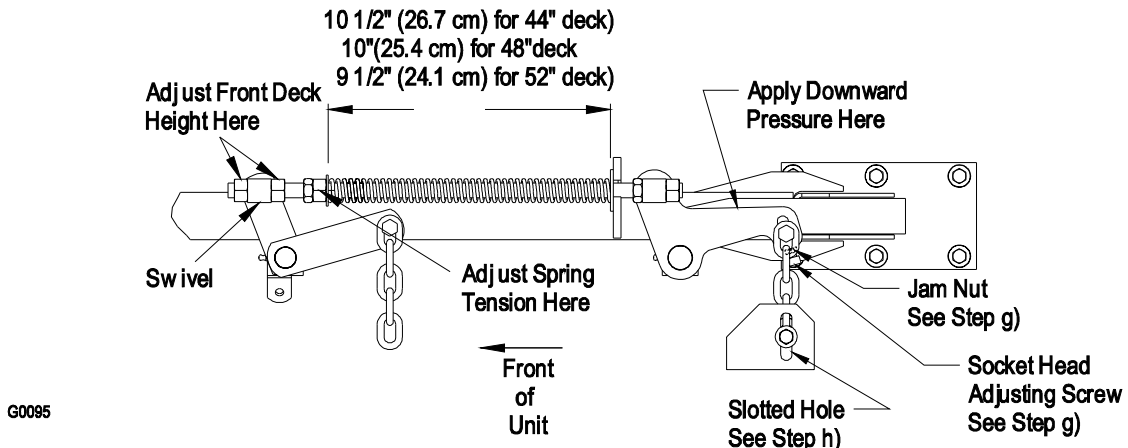

FIGURE 11
- e) Raise the deck to the 4.5" (11.4 cm) height position and take as much force as possible off of the two large deck lift springs by loosening the nuts at the front of each spring. See Figure 11.
- g) *For units **with** a socket head adjusting screw and slotted hole in rear deck lift arm:* Loosen the two (2) top chain bolts in slots in the rear deck lift arms. Loosen jam nuts and back off the socket head adjusting screws on the bottom of the arms until the chains are just loose when pressure is applied to force rear deck support arms down. See figure 11. Continue to press down on rear deck support arms and turn the socket head adjusting screws in until slack is taken out of each chain. Tighten the jam nuts. Tighten the chain bolts in the deck lift arms making sure they do not move while tightening.
- h) *For units **without** a socket head adjusting screw and slotted hole in rear deck lift arm:* Loosen the two (2) bottom chain bolts in slots at the rear of the cutting deck. Press down on the rear deck support arm (as shown in Figure 11). While holding the rear deck support arm down, take the slack out of the rear chains and tighten hardware at the bottom of the rear chains.
- i) Loosen four (4) nuts which secure front swivels (two per side), until front chains are loose and front of deck is supported by the 1-1/8" (2.9 cm) block. Do not loosen front chain hardware.
- l) Raise deck lift lever to the 4.5" (11.4 cm) cutting height position (also transport position, See Figure 9). Adjust spring compression until proper distance is obtained between the two washers (See Figure 11) by turning the nut at the front of each spring. Lock nuts in position with jam nuts.